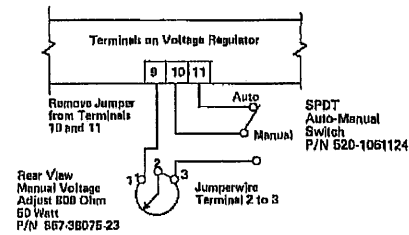

FIGURE 1C. CONNECTION DIAGRAM, AUTO-MANUAL OPTION P/N 608-00156-00
- In applications where auto-manual voltage control option is provided, remove jumper from terminals 10 and 11 and connect the auto-manual switch and the manual voltage adjust rheostat, as shown in figure 1C. Make certain jumper wire is installed across rheostat terminals 2 and 3.